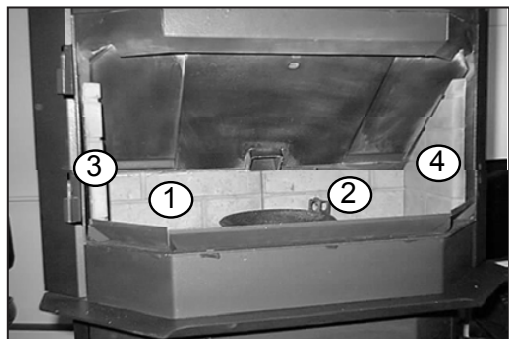

Figure 20.3
6. Complete brick set, correctly installed. **Figure 20.3**.